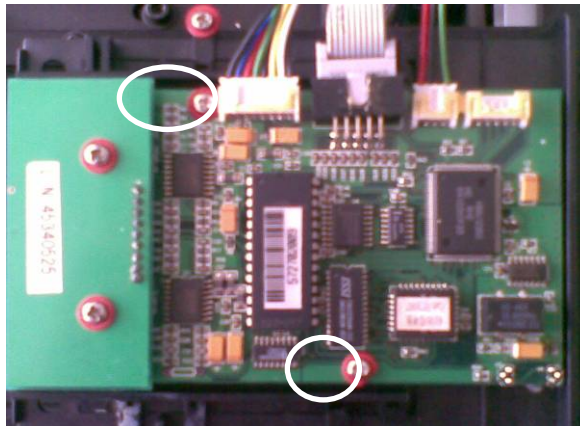

Figure 3-27
- 1、Lift the top cover of instrument, remove the shield box on the front board, you can see the front board, as shown in figure 3-27.